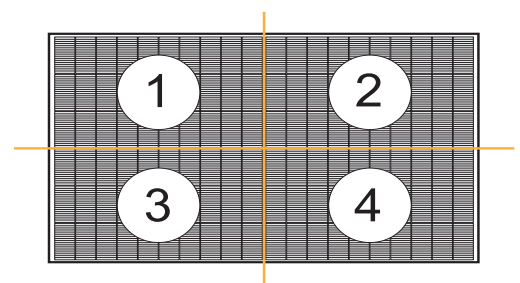

Figure 8. Module quarter division
- The module must be secured, e.g., clamped, at least once in each of the four marked zones shown below (Figure. 8).
Once a module is secured in each of the 4 zones (Figure 8.), additional clamps, i.e., ≥5 may be freely located on panel frame without affecting the warranty. Loads marked with a * were not certified as part of UL 61730 testing; these have been evaluated by internal testing process.
Once a module is secured in each of the 4 zones (Figure 8.), additional clamps, i.e., >5 may be freely located on panel frame without affecting the warranty. Loads marked with a * were not certified as part of UL 61730 testing; these have been evaluated by internal testing process.
Once a module is secured in each of the 4 zones (Figure 8), additional clamps, i.e., ≥5 may be freely located on panel frame without affecting the warranty. Loads marked with a * were not certified as part of UL 61730 testing; these have been evaluated by internal testing process.
Once a module is secured in each of the 4 zones (Figure 8.), additional clamps, i.e., >5, may be freely located on panel frame without affecting the warranty. Loads marked with a * were not certified as part of UL 61730 testing; these have been evaluated by internal testing process.